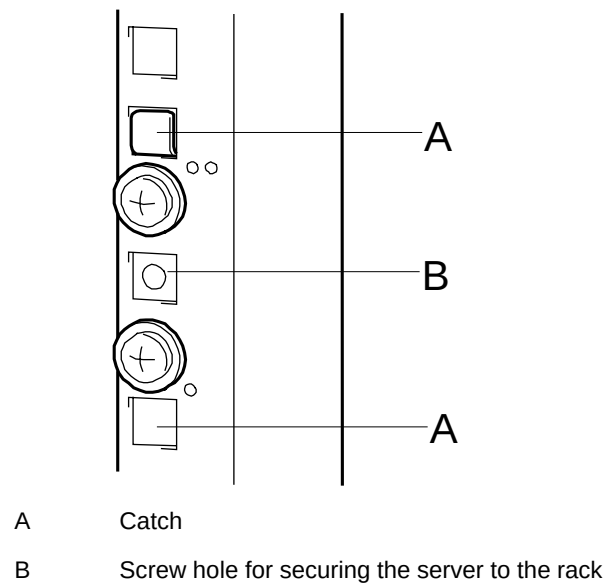

Figure 2-6. Installing the Rail Assemblies into the Rack
1. Align the left slide rail assembly behind the mounting holes in the vertical-mounting rail located on the **left** side of the rack cabinet. The catch tabs on the front and rear of the slide rail assembly help to align it with the holes in the vertical-mounting rail. See Figure 2-6.
2. Install two of the large screws and washers to secure the front of the slide rail assembly to the front vertical-mounting rail and loosely tighten them. See Figure 2-6.